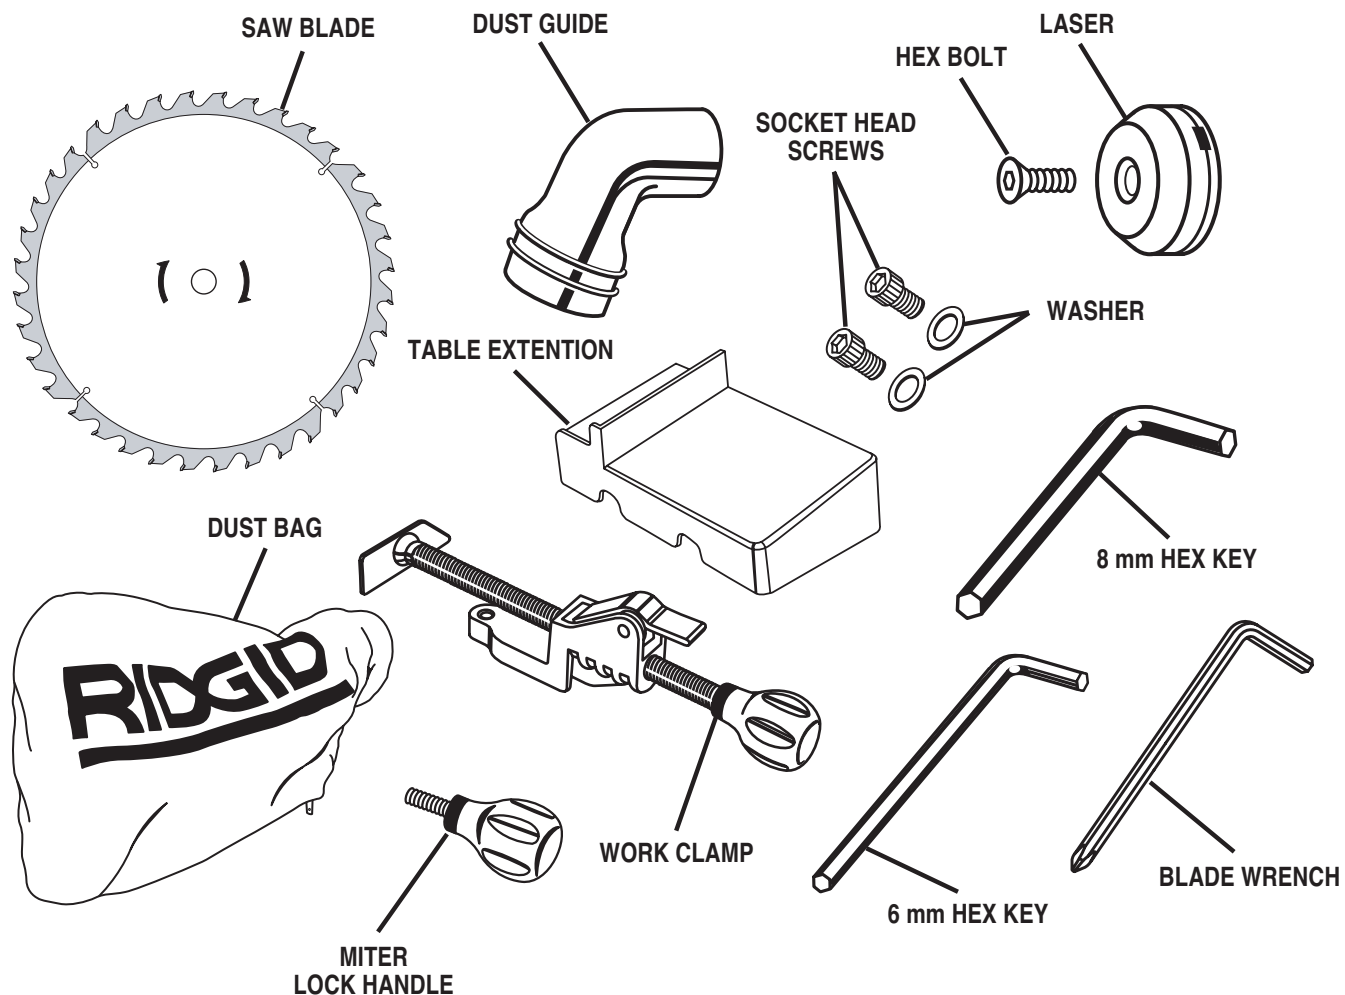

Fig. 1
- Remove all loose parts from the carton. Separate and check with the list of loose parts. *See Figure 1.*